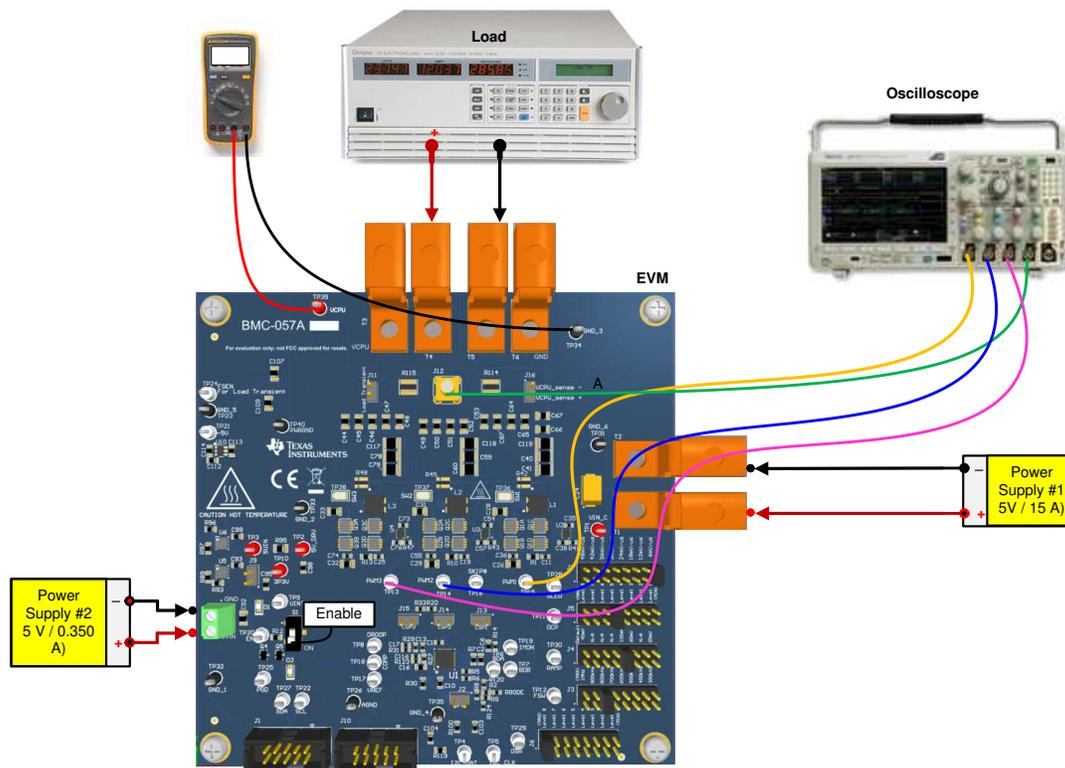

Figure 5. EVM Test Setup Showing the Power Supplies, Load, and Oscilloscope Connections
Follow the connection diagram in Figure 5 for reference.
2. Connect power supply #2 set to 5 V, 0.35 A to the green two terminal header as Figure 5 shows.
4. Figure 5 shows how to connect the oscilloscope probes from the EVM to the oscilloscope.
6. Figure 5 shows how the SMB-to-BNC adaptor is connected to monitor the output voltage on channel 4.